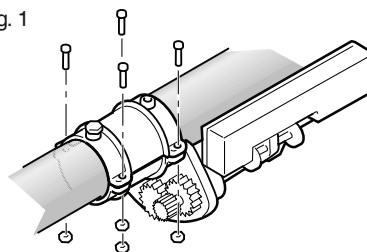

Fig. 2
- Install the M10 hexagonal head screw in the Ø 10.5 mm hole previously drilled on then shaft (fig. 2). Tighten the screw and put back the black plastic band.